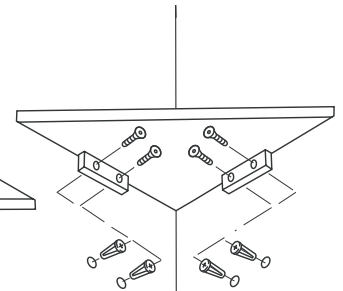

Figure 3
Step 3: Insert shelf anchors into dry wall. Attach wood brackets into anchors, as shown in **Figure 3**.